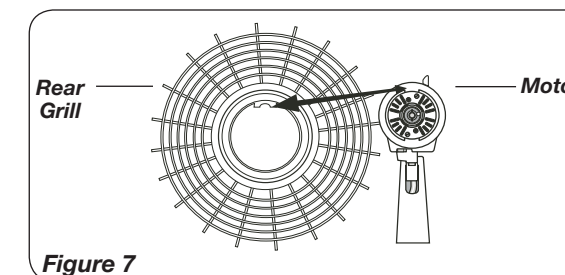

Figure 7
1. Tilt **Head Assembly** back. Put **Rear Grill** on **Motor**. (**Figure 7**)